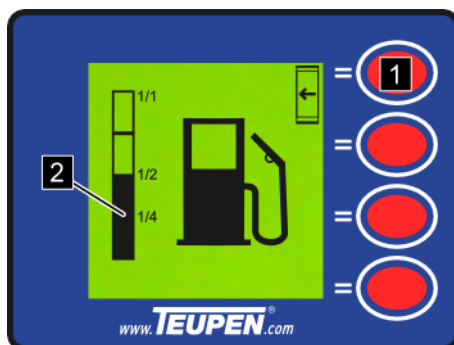

Fig. 62: Fuel indicator
The fuel level is indicated in the column (Fig. 62/2).
- Use the [function key] (Fig. 62/1) to jump back to the 'Main menu'.